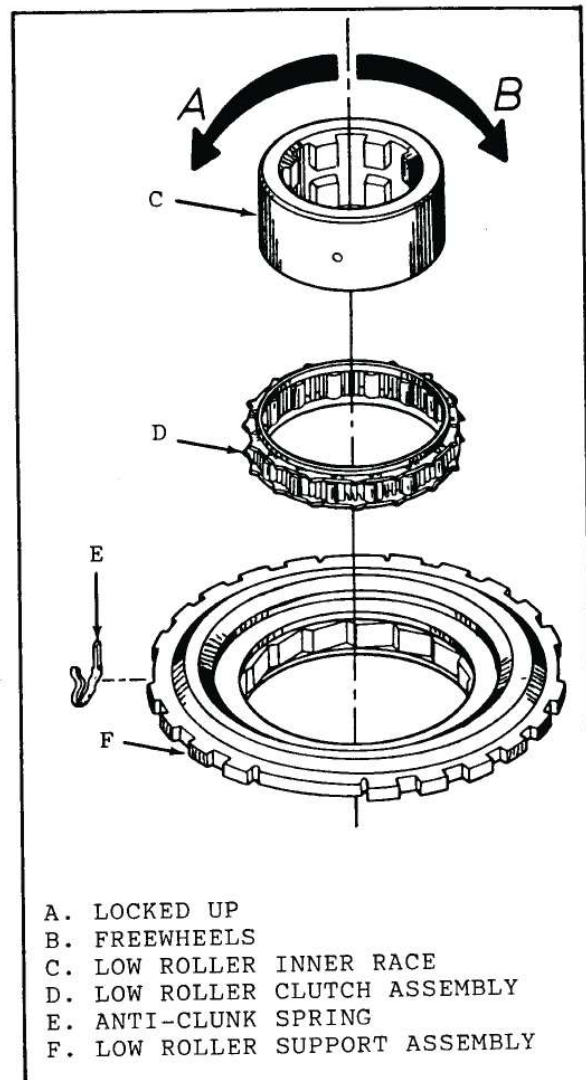

Figure 67
5. Install the low roller inner race into the roller assembly. Rotate inner race as shown in Figure 67, and push down until inner race is engaged on tangs of reaction carrier.